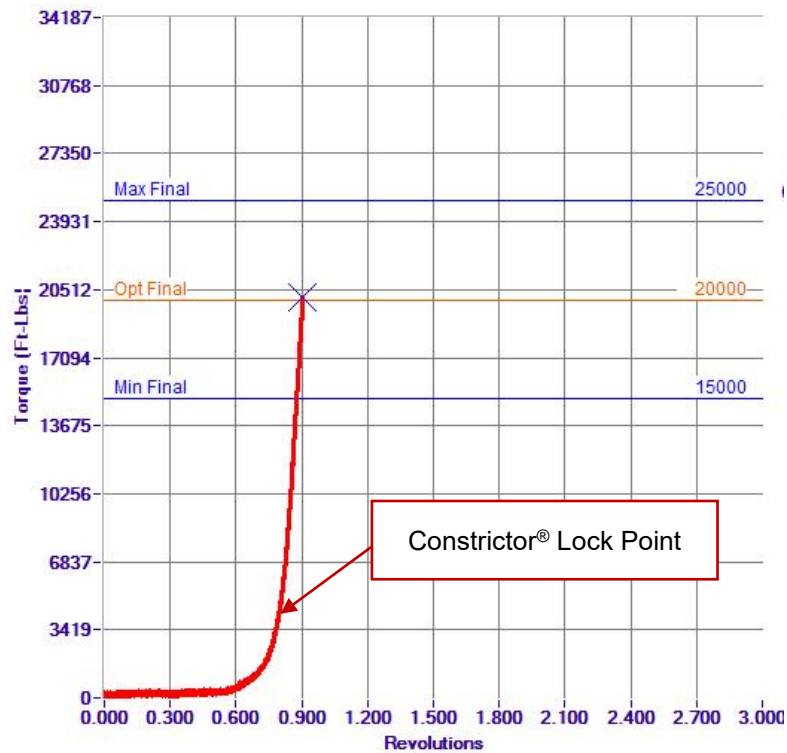

Figure 6: Example of a Proper Make-up Graph & Constrictor® Lock Point
- 4.16 Move to low gear prior to the Constrictor® lock point (see Figure 6) and keep the RPM at or below that listed in Table 2.
- 4.20 The Constrictor® Lock Point is the point on the graph where the torque-turn slope begins to change from curved to linear. It is required to be between 5% and 80% of makeup torque. See Figure 6 and 7.